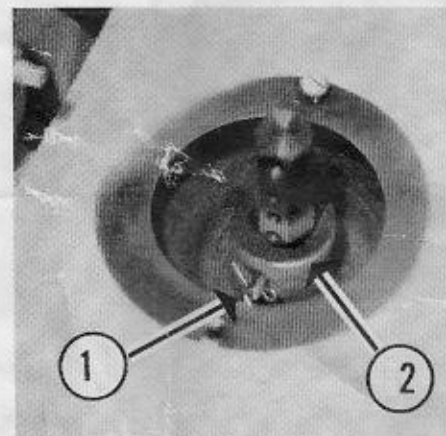

Figure 20
2. Remove the cotter key from the end of the Height Adjustment Pin, 1 in Figure 20. On the center and right blades (center and right as you stand at the Handles) the cotter key and Pin are accessible upon removal of the Spindle Covers. However, to gain access to the left Blade cotter key and Pin, reach under the left Belt Guard. An alternate method is to remove the entire left Belt Guard (which includes the
4. There are six holes in the Shaft (exclusive of the large hole in which the screwdriver was placed) which regulate the cutting height. The top-most hole sets the cutting height at 1½ inches from the ground, the next at two inches from the ground, and so on in ½-inch increments to a maximum cutting height of four inches. Line up the hole corresponding to the desired cutting height with the holes in the Shaft Housing, 2 in Figure 20, and insert the Height Adjustment Pin into these. Then insert the cotter key in the end of the Pin.